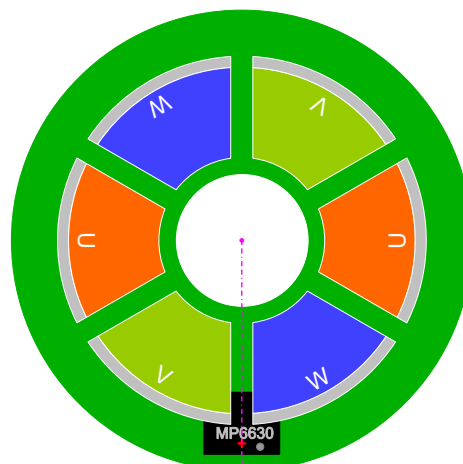

Figure 11: Aligning the Hall Element with the Central V and W Lines (Top View)
Step 2: Align the Hall element of MP6630 with the central line of winding V and winding W to achieve maximum operating efficiency (see Figure 11).